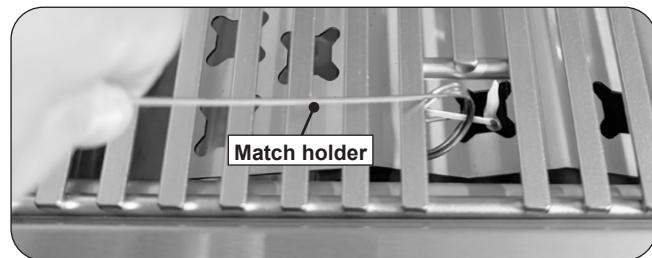

Fig. 33-2 - Manual lighting
2. Insert either a burning long-barrel butane lighter, a burning long-stem match, or a burning match held by a wire extension holder through the cooking grids to the burner (Fig. 33-2). For backburners, hold the flame against the perforated material of the backburner.